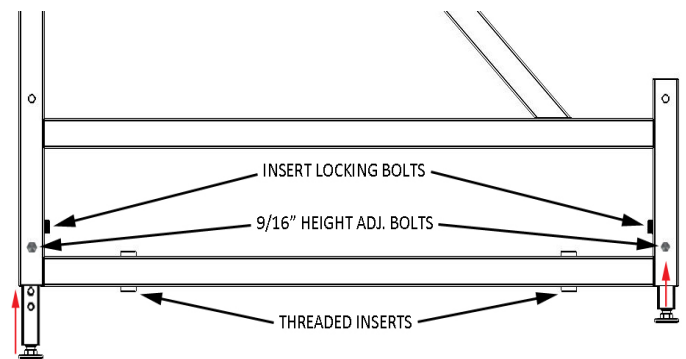

Fig. 7
8. Loosen black insert locking bolts and remove 9/16" hex nuts, washers, and height adjustment bolts using a 9/16" socket wrench and box wrench then slide leg insert up into leg until bolt holes align in the highest position. (Fig. 7)